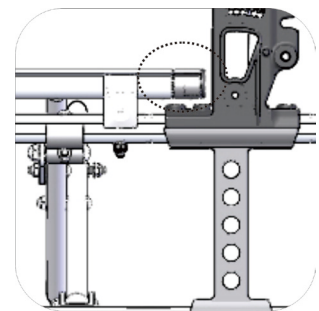

Figure 4.17
4.7.5 Lock the extension seat tube set. (See Figure 4.17)